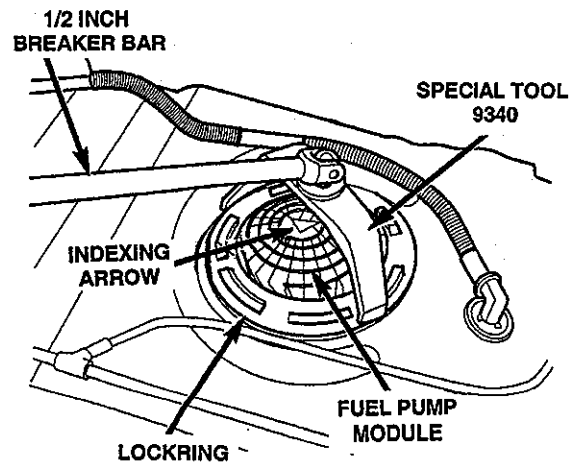

Figure 10 – Fuel Pump Module
- a. Note the rotational position of the module before attempting removal. An indexing arrow is located on the top of the module for this purpose (Figure 10).
- b. Position Special Tool 9340 into the notches on the outside edge of the lock ring (Figure 10).
16. Position the lock ring over the top of the fuel pump module (Figure 10).
18. Using Special Tool 9340 and a 1/2 inch breaker bar, tighten the lock ring (clockwise) until all seven notches have engaged (Figure 10).